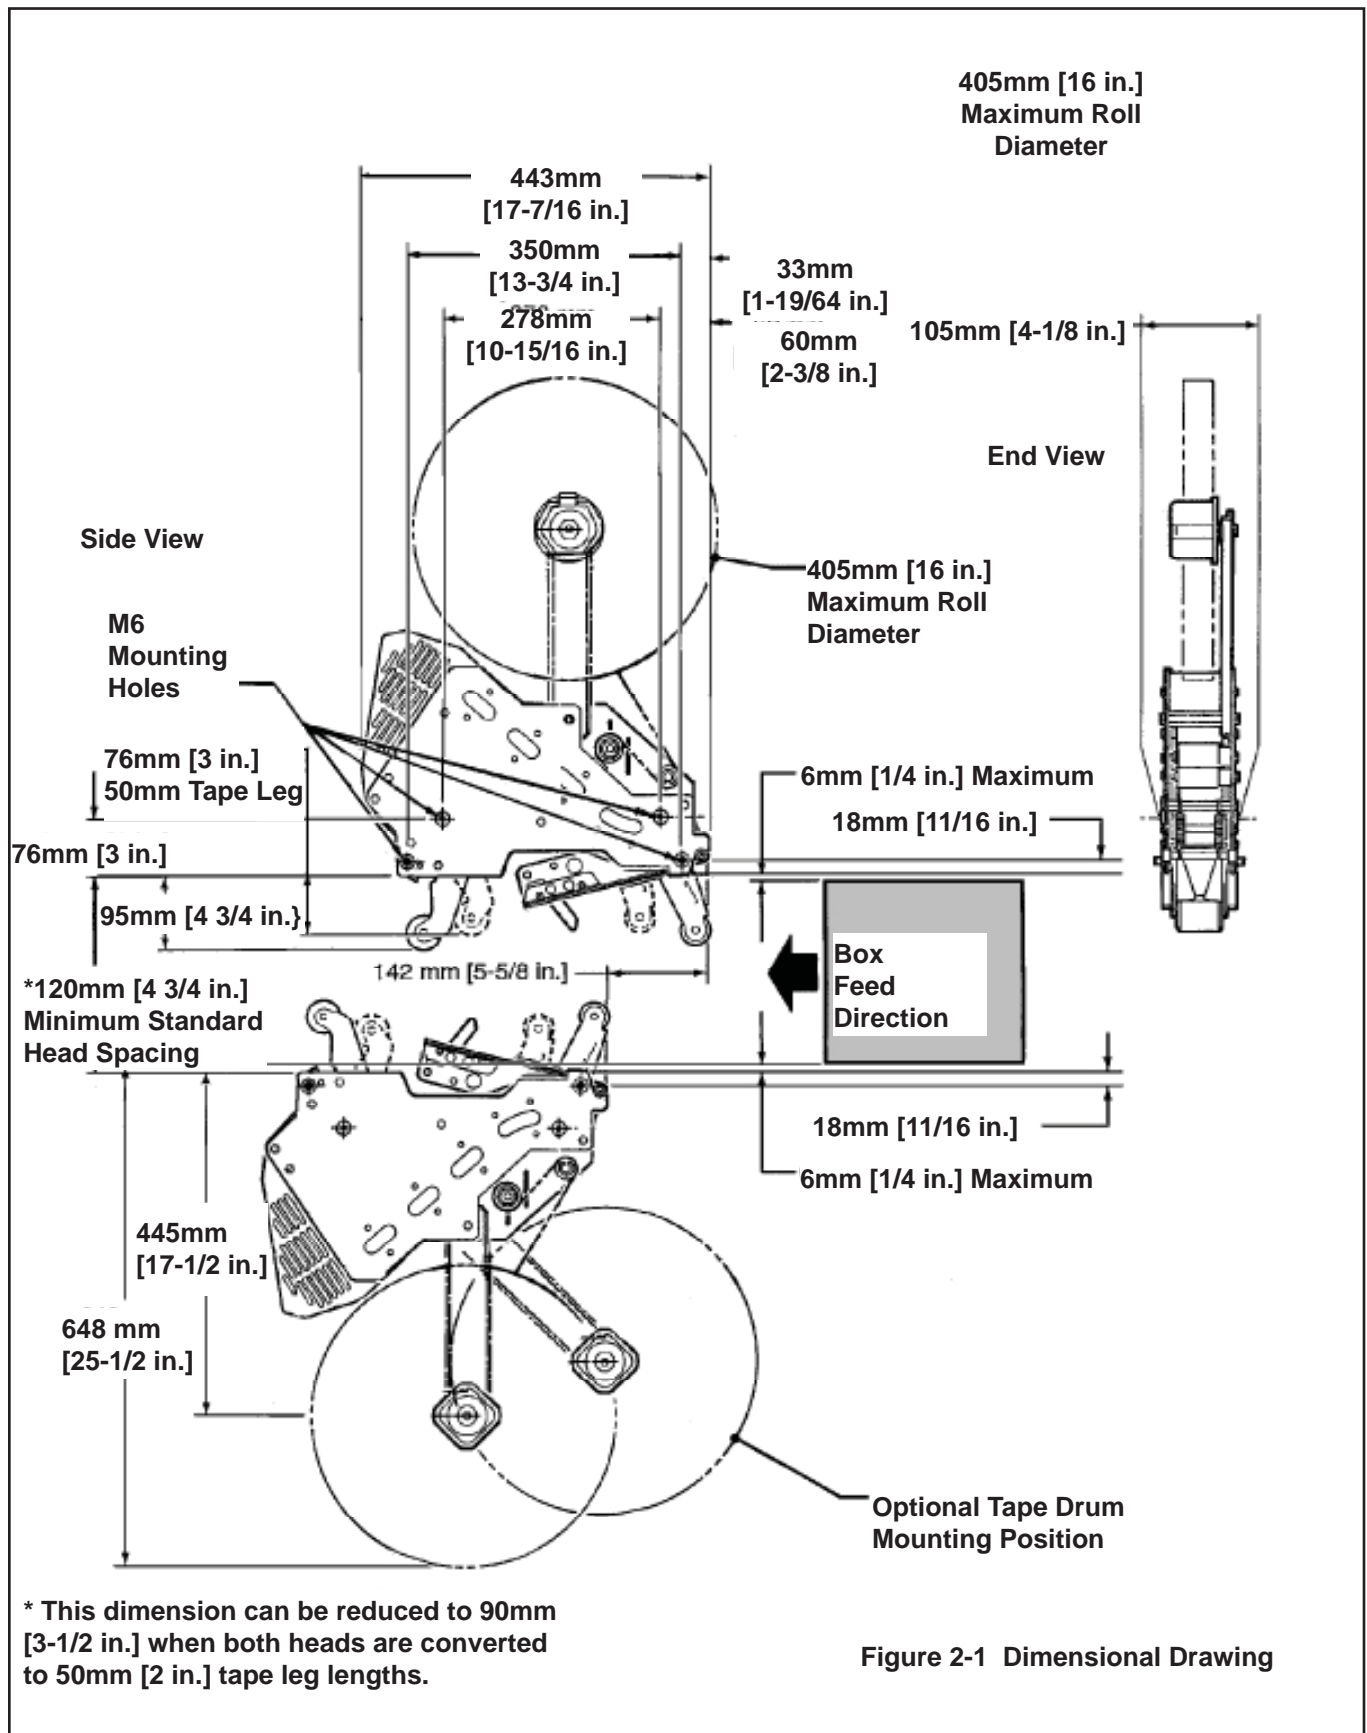

Figure 2-1 Dimensional Drawing
The taping head assembly can be used in converting existing or in custom made machinery. It can be mounted for top taping or bottom taping. Refer to "Box Size Capacities," as well as **Figure 2-1** in the Specifications section, for the following points in making such installations:
3. **Figure 2-1** illustrates the typical mounting relationship for opposing taping head assemblies to allow taping of box heights down to 90mm [3-1/2 inches].